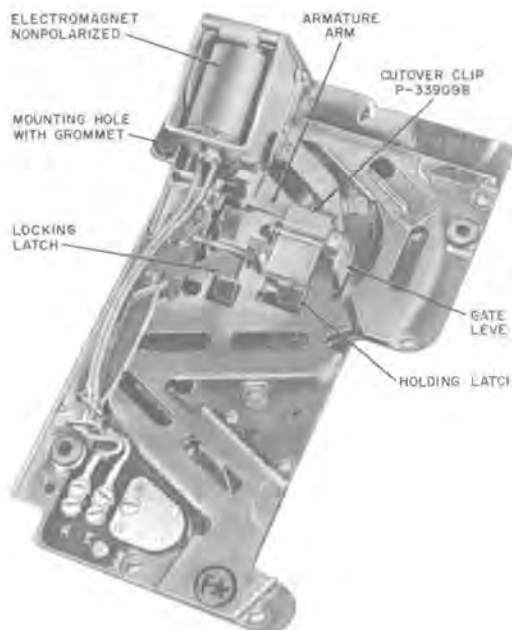

Fig. 25—Prepay Coin Chute Equipped With P-339098 Cutover Clip For 5-Cent Service
5.11 The coin chute (Fig. 25) is made of stainless steel and provides nickel, dime, and quarter channels leading to the coin hopper of the mechanism unit. Nickels are routed to strike a solid gong